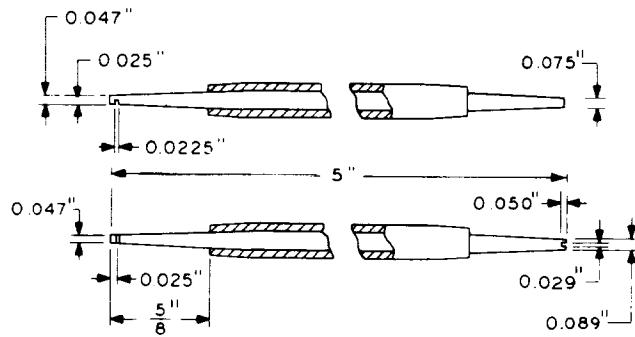

Fig. 7—638B Adjuster Tool
2.08 638B: The 638B tool (Fig. 7) is a contact aligning tool which forms a part of the 1013A tool kit. It is used in adjusting the replacement stationary contacts and twin contacts of the 286-, 287-, and 288-type relays.